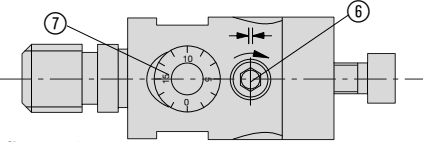

figure 2
To clamp the adjusting pin, all tools are fitted with a clamping screw ⑥ (figure 2).